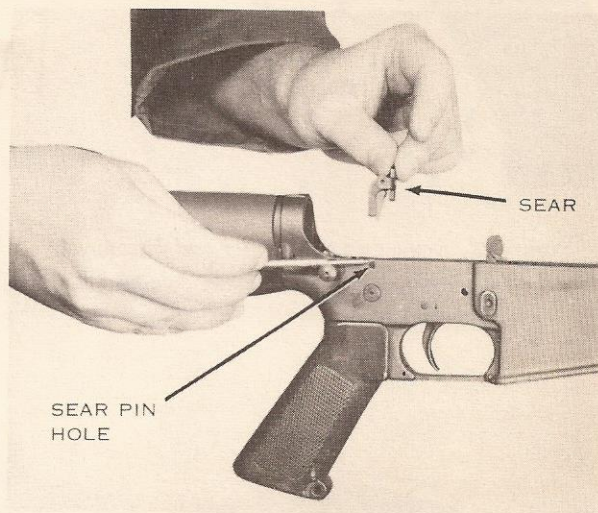

Figure 21. Removing the automatic sear.
d. Using the nose of a dummy round, press the sear pin out from right to left and remove it from the receiver. Once the sear pin is removed, lift the automatic sear out of the receiver (fig. 21).